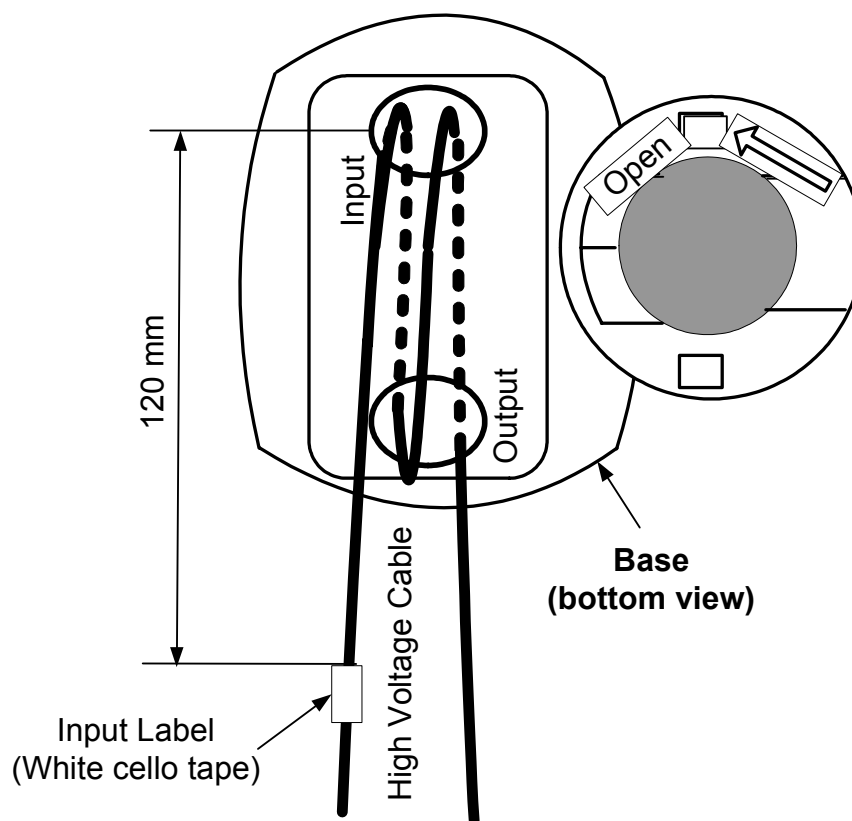

Fig. 3-1.
- b. Install/wrap the High Voltage Wire (P/N WIR20001) into the Coupler Base - two wraps. The installation must begin from the "Input", as shown on the Fig. 3-1.